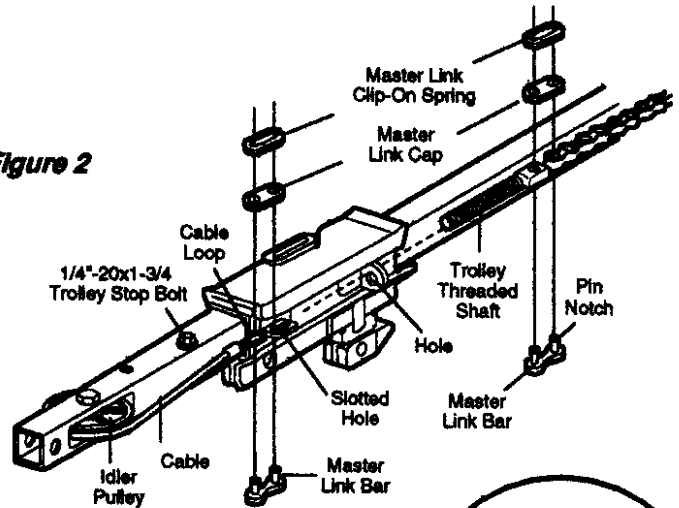

Figure 2
5. Disconnect the two master link assemblies from the trolley (Figure 2) and discard.